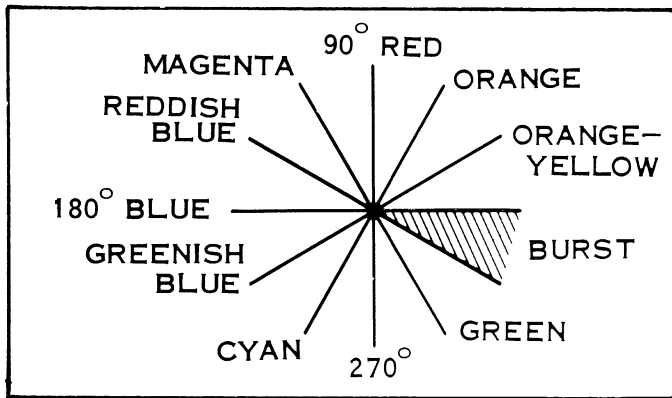

Figure 6-12. Vector Pattern Analysis
- e. Turn on television set and adjust Model 452 horizontal and vertical (CH.B and CH.A) VARIABLE gain controls for a round pattern perimeter. Refer to Figure 6-12.